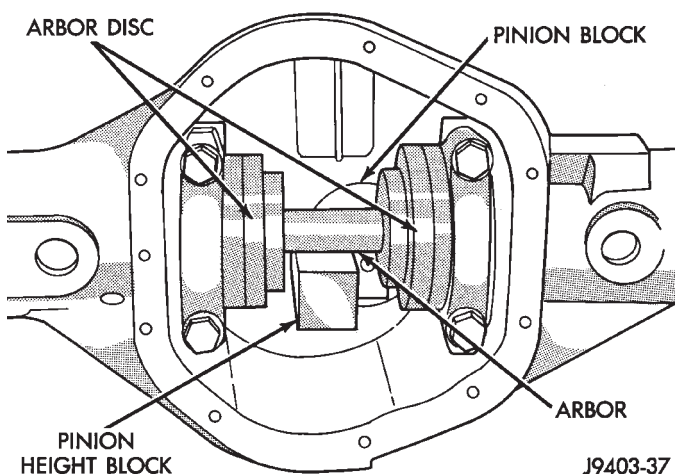

Fig. 68 Gauge Tools In Housing—Typical
(4) Place Arbor Disc 6732 on Arbor D-115-3 in position in axle housing side bearing cradles (Fig. 68). Install differential bearing caps on Arbor Discs and tighten cap bolts. Refer to the Torque Specifications in this section.